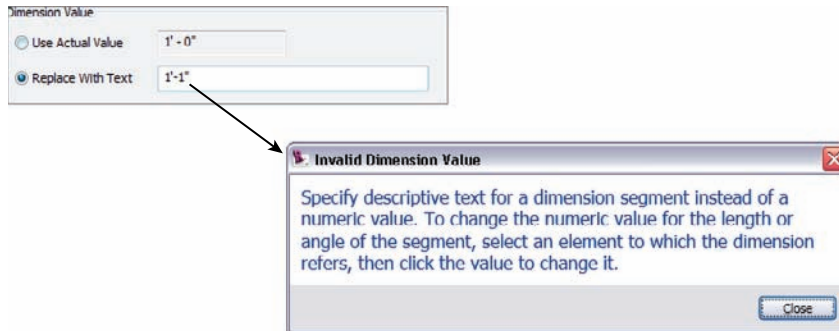

FIGURE 5.43 Any numeric value will trigger a warning in Revit. You simply cannot type a value over a dimension.
5. You will get an Invalid Dimension Value message, as shown in Figure 5.43. Revit will not allow you to do such a foolish thing. Click Close.